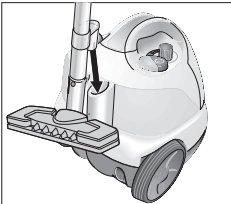

Figure 8: Parking position
- If you interrupt your work for a short period of time, the extension tube with the attached nozzle can be inserted into the parking position (see Figure 8).